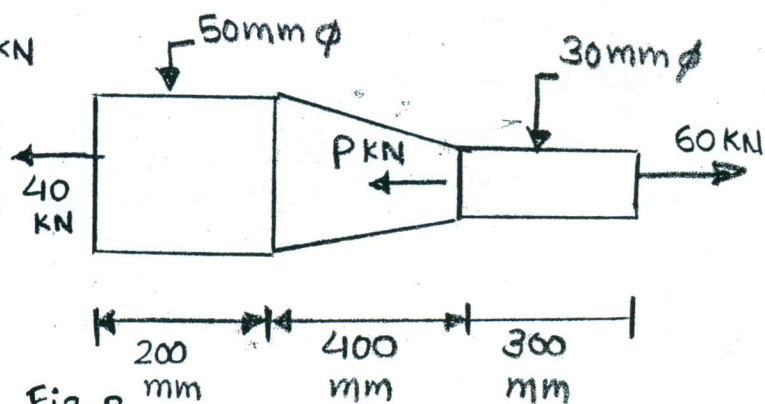

Fig. 8
(B) A steel rod ABCD is shown in Fig.8. Calculate load P necessary for equilibrium. Also compute elongation of rod. $E = 200 \text{ GPa}$. 05